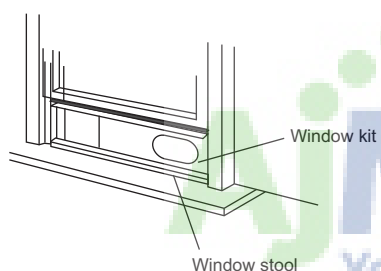

Fig.10
3. Trim another foam seal (with adhesive) to the proper length and place on top of the slider kit (Fig.10).